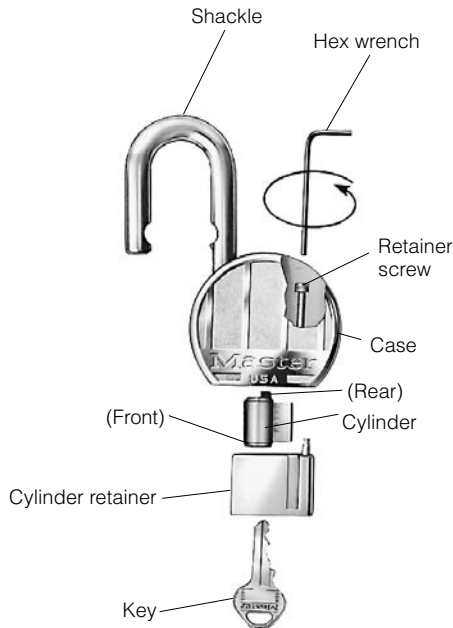

Figure 12.14 Exploded view of a solid-body Master padlock. (*Master Lock Company*)
2. Slide the cylinder retainer out (Fig. 12.14). Turn the retainer upside down to remove the cylinder.